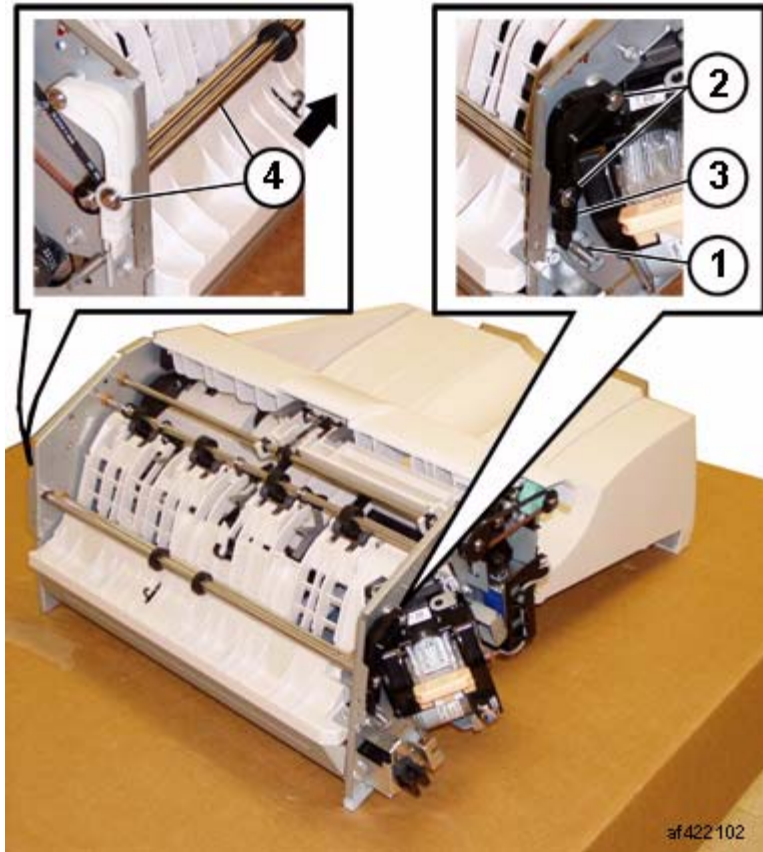

Figure 3 Removing the Gear
- (1) Remove Screws (2).
- (2) Remove Screw.
- (3) Carefully Remove the Upper Chute Assembly.
9. Remove the Entrance Roll Assembly (Figure 3):